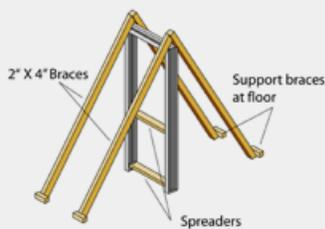

Figure 1: Bracing the frame
- 3** Brace the frame with 2" x 4" (50.8 mm x 101.6 mm) wood studs, as shown in Figure 1.